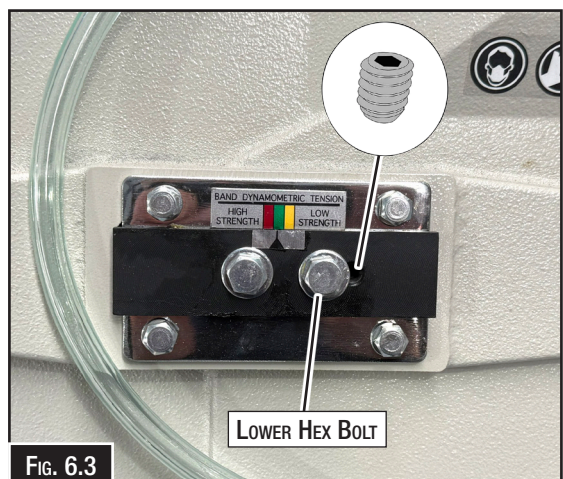

FIG. 6.3
Blade tracking has been tested at the factory. Adjustment is rarely required when the blade is used properly or if the blade is correctly welded. (Refer to Fig. 6.3) for location of blade tracking adjustment screws. ***This procedure should only be carried out by your service engineer***
4. With the machine running, adjust both the set crew and blade tension knob simultaneously to keep constant tension on the blade. The set screw and blade tension knob are always turned in opposite directions, ie, when one is turned clockwise the other is turned counterclockwise. (Fig. 6.3)